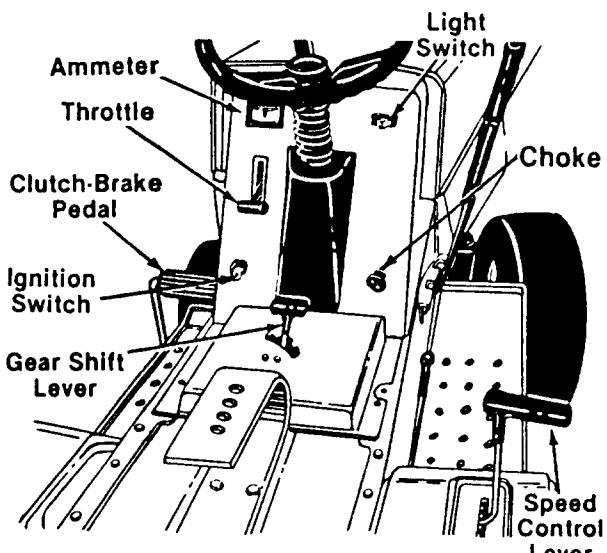

FIGURE 1
The throttle control is used to regulate the engine speed and to activate the choke on the engine. To get maximum efficiency from cutting, the throttle should be in the FAST position when operating the mower. See figure 1.
The gear shift lever is used to shift into "FORWARD", "NEUTRAL" or "REVERSE". See figure 1. The clutch-brake pedal must be depressed and the lawn tractor must not be moving when shifting gears. Do not force the shift lever. Release the clutch-brake pedal slightly to line up the shifting collar in the transmission. Then try to shift gears.
The choke control is located on the right side of the dashboard and is operated manually. Pull out choke control. Once engine starts, slowly push in the choke as the engine warms up. See figure 1.
Turn the key to the "START" position to start the engine. When the engine is running, let the key return to the "ON" position. To stop the engine, turn the key to the left to the "OFF" position and remove it to prevent accidental starting. See figure 1.
The speed control lever allows you to regulate the ground speed of the lawn tractor. See figure 1. It may be set in any one of seven positions. To set, depress clutch pedal. Push speed control lever downward and move backward to slow lawn tractor, move forward to increase speed. When desired speed has been obtained, release lever in that position. Whenever clutch is engaged, unit will automatically go to the pre-set speed.
Push the light switch to turn on the lights. The lights will only operate when the engine is running. See figure 1.
The ammeter registers the rate of battery charge or discharge. The ammeter will register on the discharging side when starting the engine. It should register on the opposite side (charging) when the engine is running in the fast position until the battery is completely charged. With a fully charged battery or with the engine idling, the ammeter will not show a charge. See figure 1.
The clutch-brake pedal is located on the left side of the lawn tractor. Depressing the clutch-brake pedal part way disengages the clutch. Pressing the pedal all the way down disengages the clutch and engages the disc brake. See figure 1.
3. Place the blade engagement lever in the DISENGAGED position. See figure 1.
4. Set the throttle control in the FAST position. See figure 1.
6. Turn the ignition key to the START position. When the engine is running, let the key return to the "ON" position. See figure 1. Once the engine starts gradually move CHOKE to the OFF position.